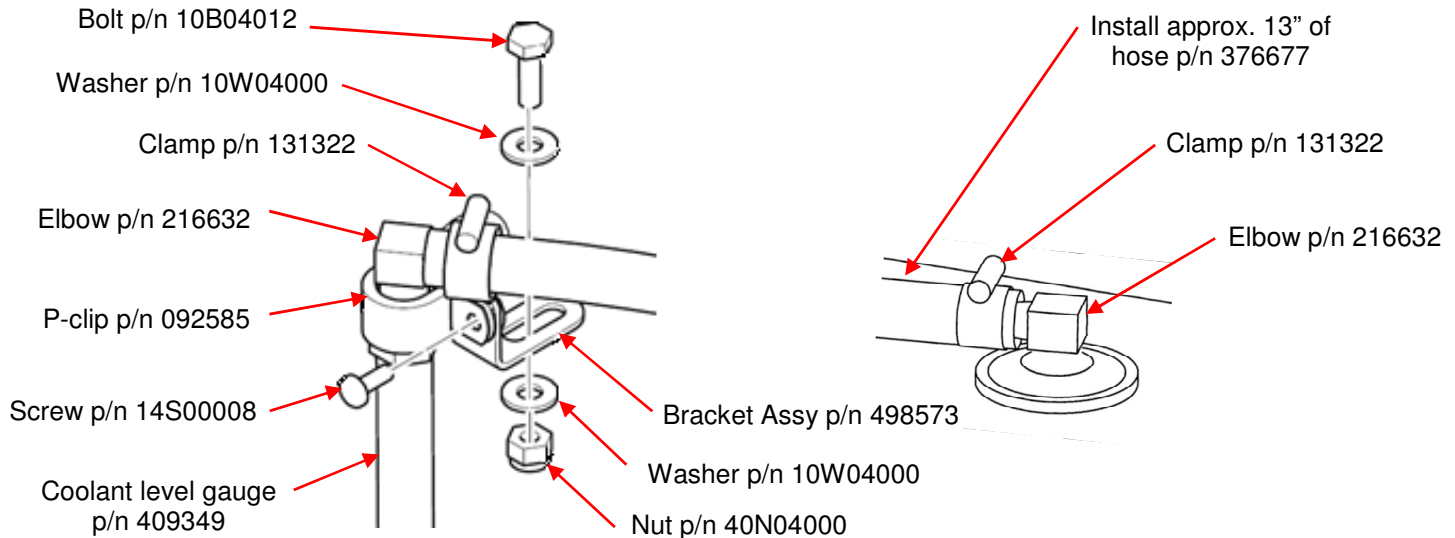

Figure 12: Surge Tank Coolant Gauge Installation
16. Install approx. 13" of hose p/n 376677 between the barbed elbows installed in Step 15 and secure using clamp p/n 131322 (x2). See Figure 12.
17. Loosely install bracket assembly p/n 498573 to the underside of the existing mounting plate on the surge tank using bolt p/n 10B04012, washer p/n 10W04000 (x2) and nut p/n 40N04000. See Figure 12.
18. Secure the top of the coolant level gauge installed in Step 14g to the surge tank bracket installed in Step 17 using p-clip p/n 092585 and screw p/n 14S00008. See Figure 12. Tighten bracket assembly bolt from Step 17.